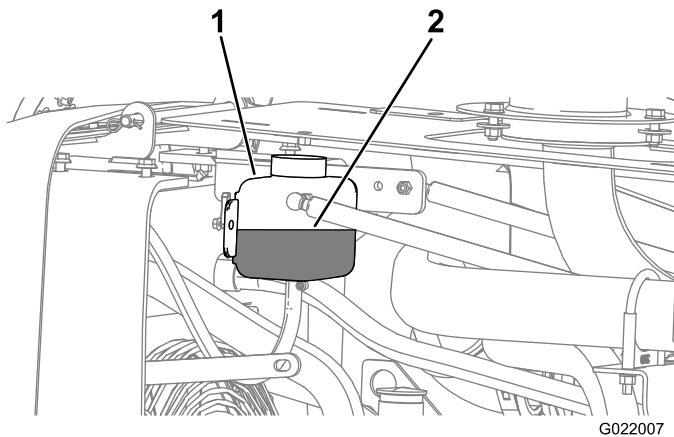
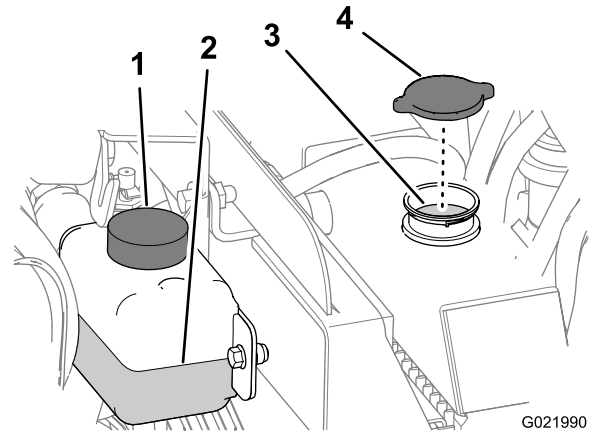

Figure 138
Figure 139
4. Check the coolant level in the reservoir (Figure 138).
4. Remove the radiator cap from the filler neck of the radiator and check the coolant level (Figure 138 and Figure 139),
5. If the coolant level is low, add coolant until the level is up to the bottom of the filler neck (Figure 139).
6. Install the radiator filler cap, ensuring that it is tightly sealed (Figure 139).
4. Remove the radiator cap (Figure 139).
- 2. Remove the radiator cap (Figure 139).
- 4. Install the radiator cap (Figure 139).